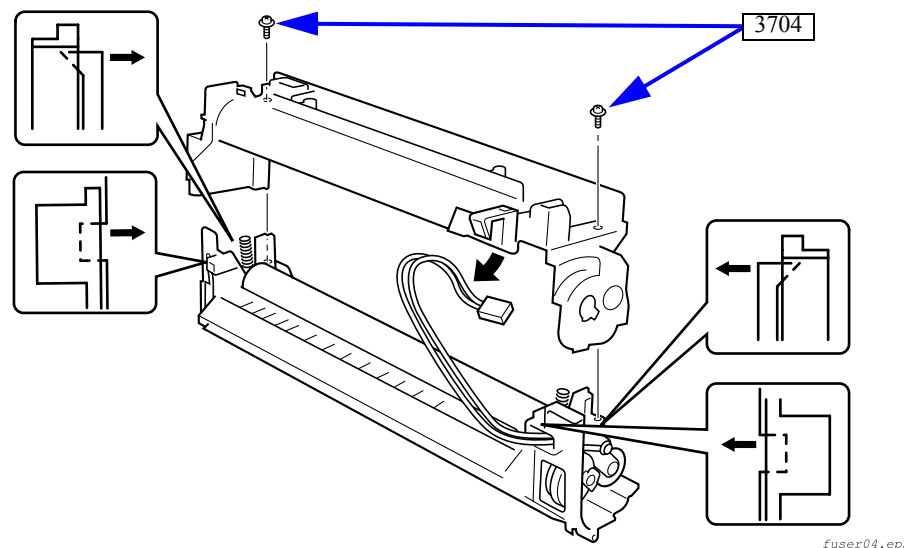

Figure 4-19. Fuser Unit Separation
3. Remove the two securing screws. (See Figure 4-19)